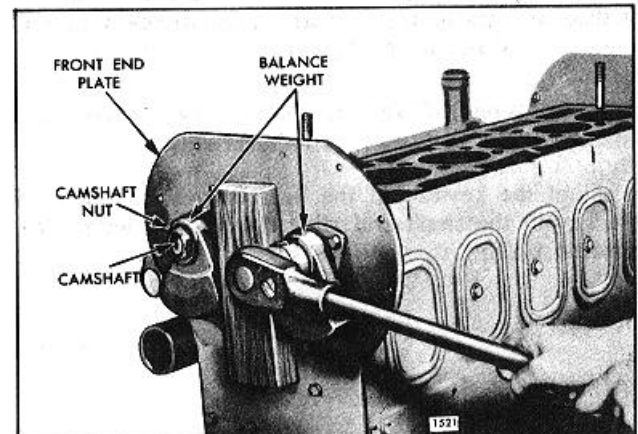

Fig. 2. Loosening Nut on Camshaft or Balance Shaft.
2. Place a block of wood between the balance weights to prevent rotation (Fig. 2).